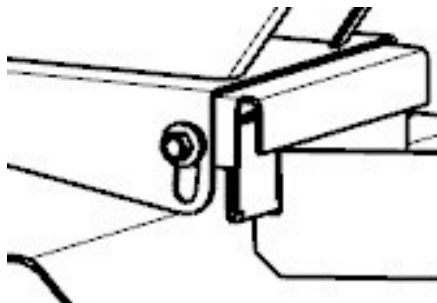

Figure 4
- Loosen handle column bolt and select an appropriate height, then tighten it (See Fig.4).